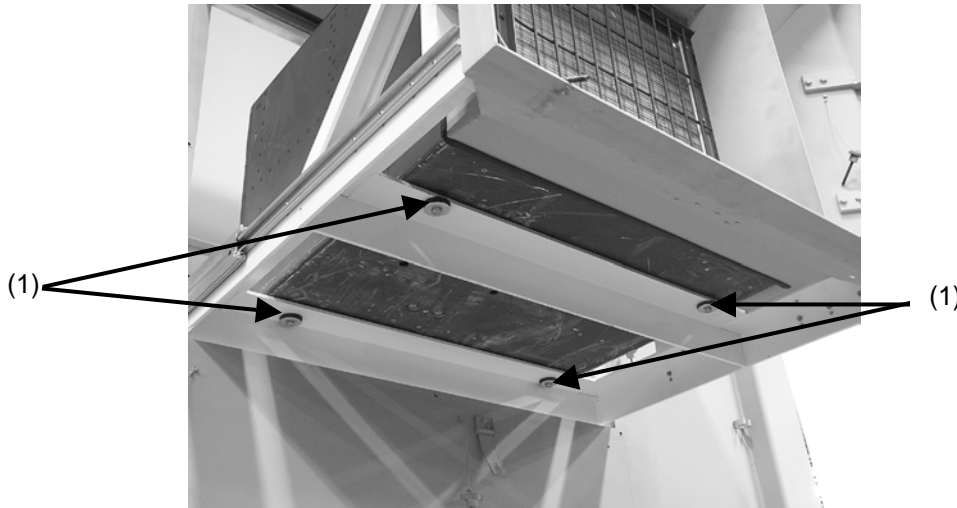

Figure 4-14. Underside of ECU.
9. Remove four 3/8" bolts (1), washers, spacers, rubber grommets and spacers located on underside of ECU (Fig 4-14).